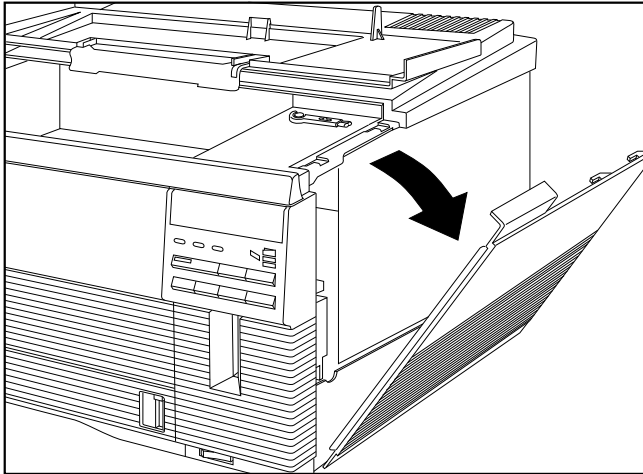

Fig. 9.9 Remove the Side Cover
6. Remove the side cover by lowering it and gently lifting the bottom edge up and out of the slots on the printer. Then, set the cover aside for now (fig. 9.9).